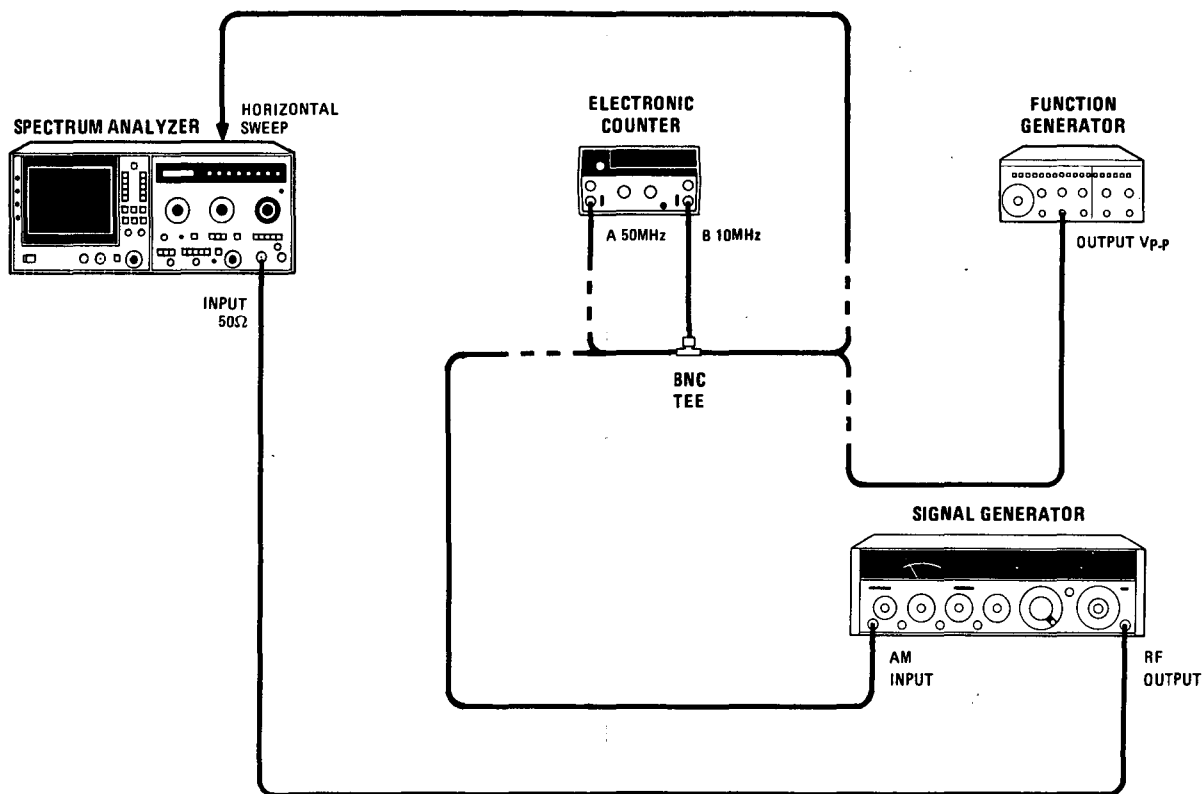

Figure 4-21. Sweep Time Accuracy Test Setup
2. Connect RF OUTPUT of signal generator to INPUT 50 Ω of spectrum analyzer (see Figure 4-21). Connect BNC tee connector to B 10 MHz input of counter. Connect one side of BNC tee to OUTPUT Vp-p of function generator. Connect other side of BNC tee to AM INPUT of signal generator.